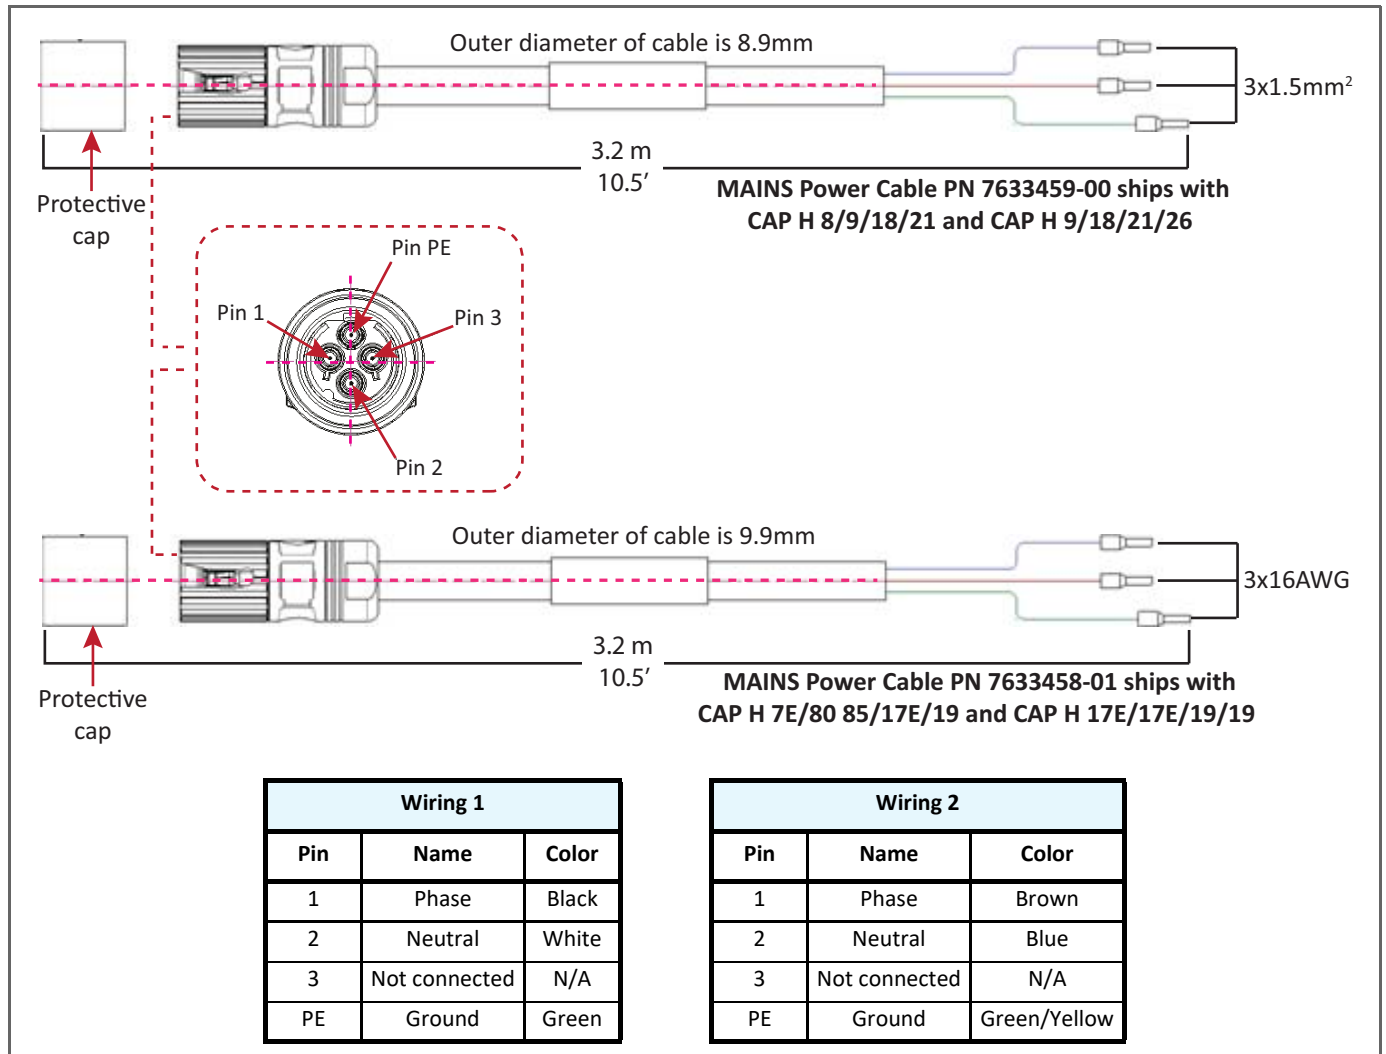

Figure 7. MAINS Power Cable
A MAINS Power cable for AC ships with each CAP H; see Figure 7. Note that there are two MAINS Power cables, make sure you are referring to the specifications for the cable with which you are working.
- 2 Locate the MAINS power cable that was delivered with the CAP H (shown in Figure 7 on page 42).
- 5 Wire the power cable to the junction box or receptacle. Refer to the color code and pin numbers shown in Figure 7 on page 42.
- 8 Unscrew the protective cover from the MAINS connector of the CAP H (see Figure 7 on page 42).